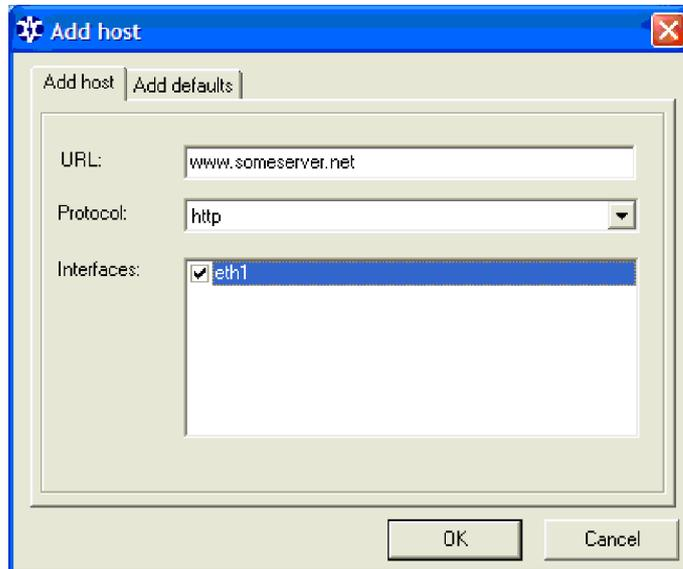

Figure 96 Adding New Host to hosts
1. In the **Category** window, select *hosts*, and click **Add host**. The dialog shown in Figure 96 on page 221 appears.